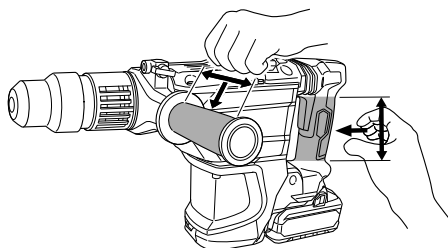

Fig. 1
23. **Make sure to securely hold the tool as shown in Fig. 1 during operation.**